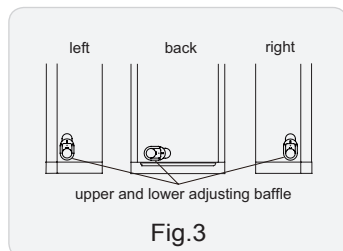

Fig.3
(2) After confirming the direction of outlet pipe, loosen the screws at the upper and lower adjusting baffle to let the connection pipe/drain pipe connects the indoor unit. (As show in Fig.3)